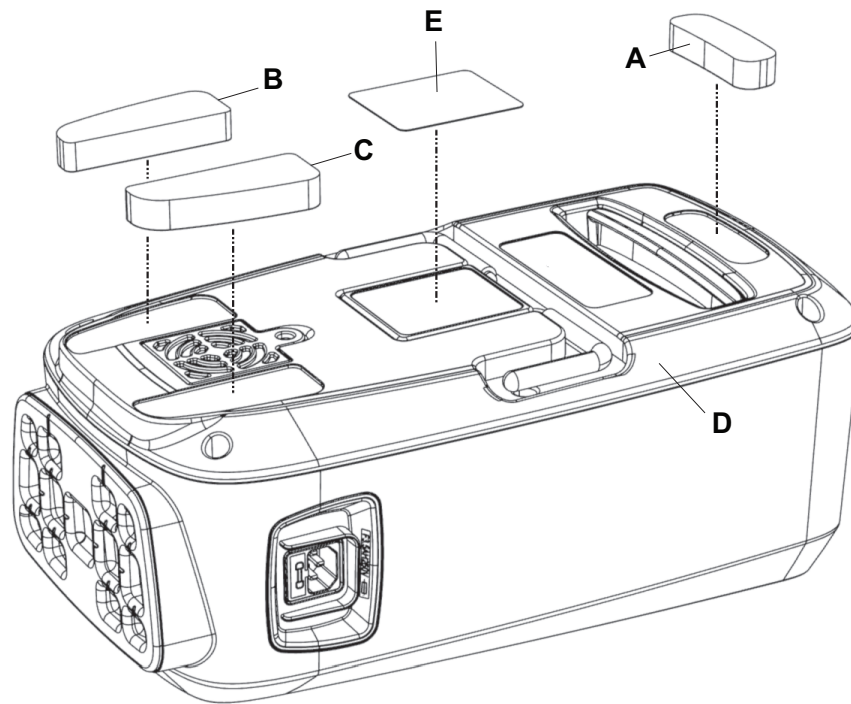

Figure 16 – Bumpers
3. Using a small slotted screwdriver, scrape under each bumper to remove. Start from the corner of each bumper to remove the top bumper (A), bottom left bumper (B), and bottom right bumper (C) from the back cover (D) (Figure 16). Discard the bumpers.